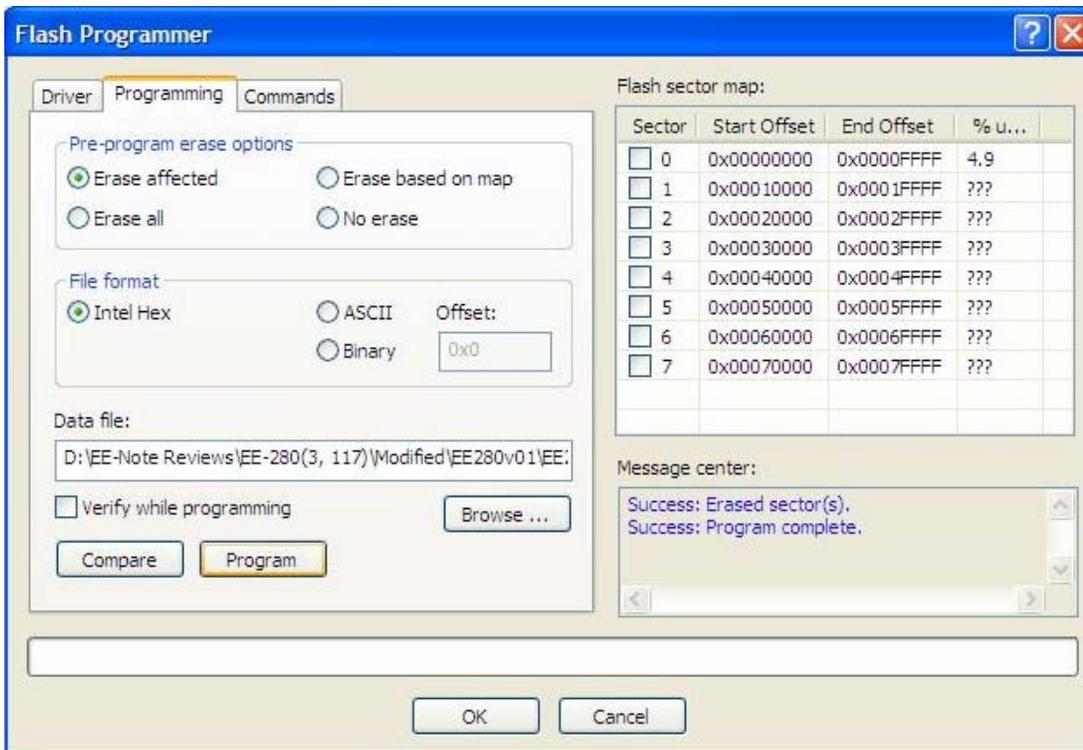

Figure 7. Flash Programmer – loading the loader file for user application
3. Click the Programming tab. Click the browse (...) button under Data File (Figure 7) and select the path for the generated user_application.ldr file.